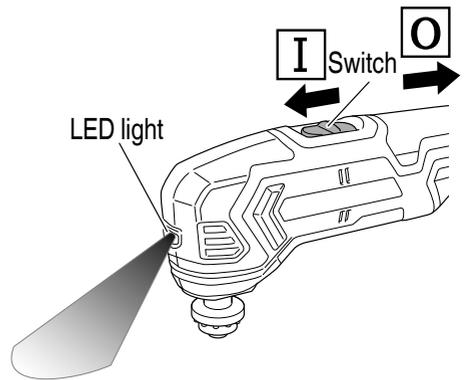

Fig. 11
6. Sliding the switch towards **I** will switch on, simultaneously activating the LED light which will light the application tool. (Fig. 11)